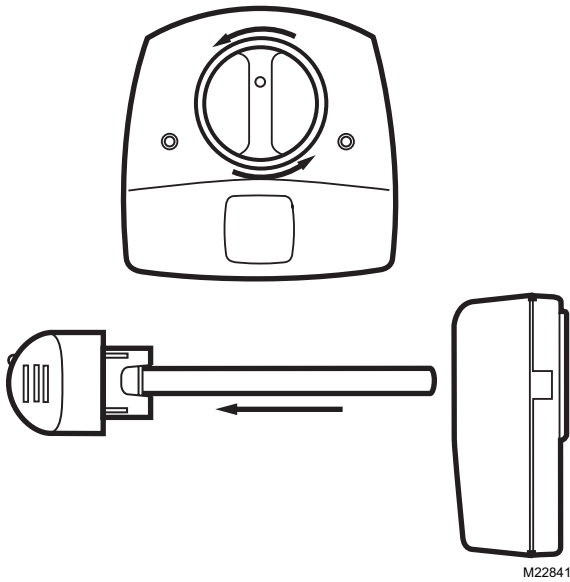

Fig. 10. Remove lamp bulb.
3. Rotate your lamp handle counterclockwise and gently pull the lamp handle to remove the bulb(s). See Fig. 10.